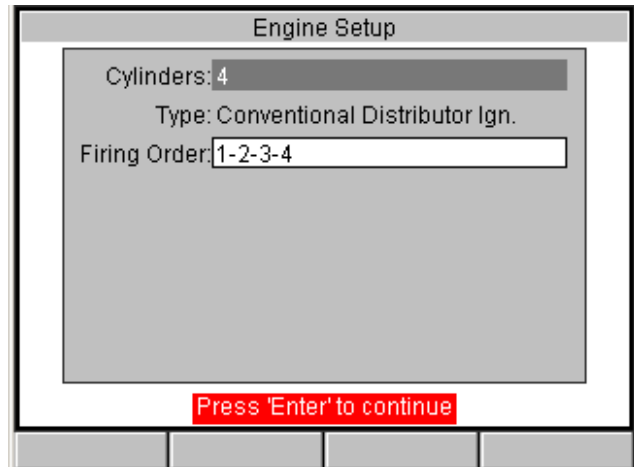

Figure 8.9: Ignition Scope Engine Setup Screen
- 2 From the main menu screens, select **Scope** and then **Ignition Scope**. This displays the Engine Setup screen (Figure 8.9).